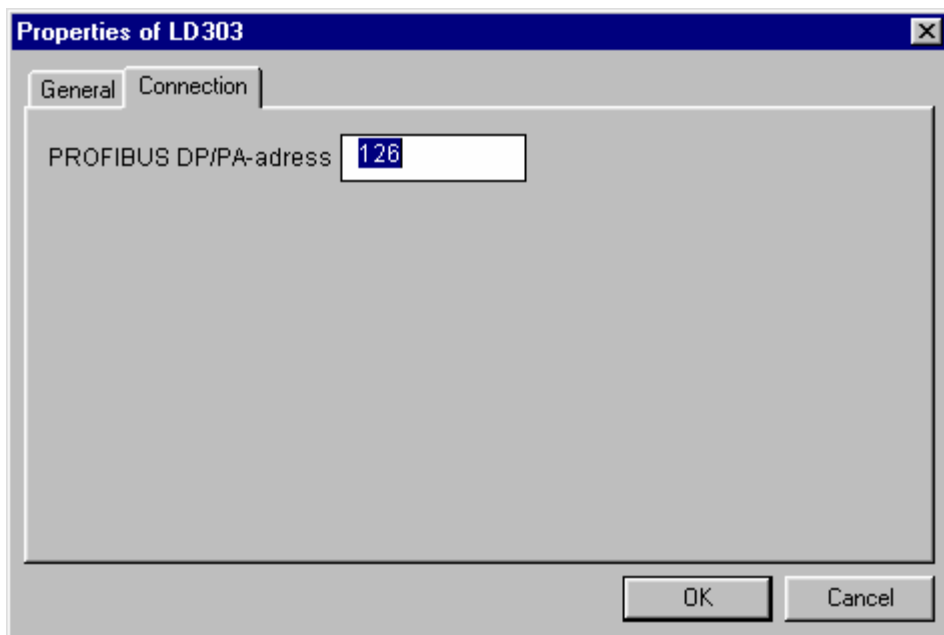

Figure 2.6 - Simatic PDM Properties
- 1- When creating the device, we need to set the device address. See Figure 2.6.